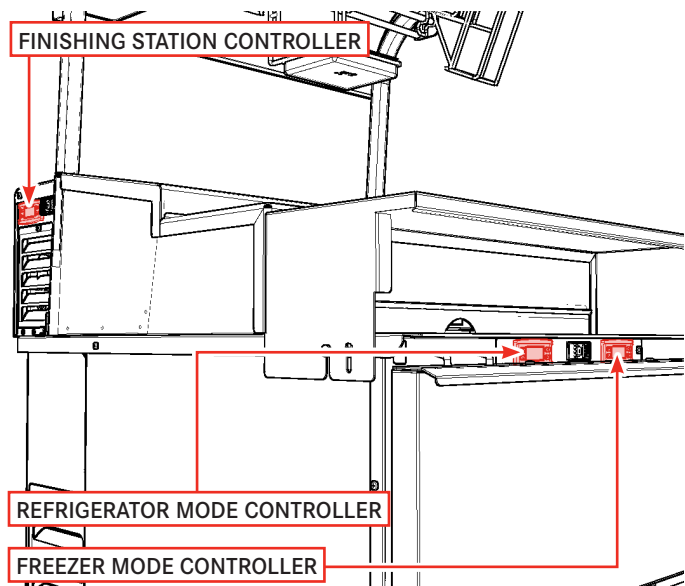

Fig. 19
1. Locate appropriate temperature controller on unit (Fig. 19).